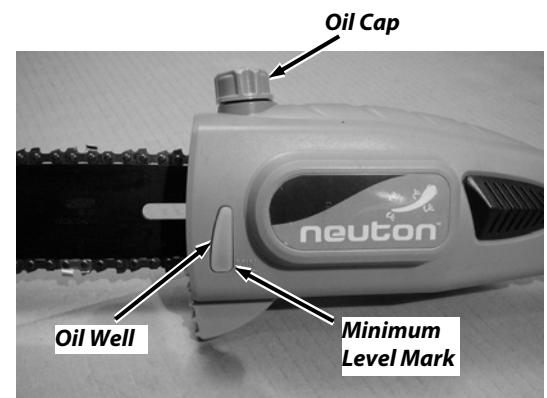

Figure 8
1. Remove the Oil Cap (**Figure 8**) and add the #32 Bar & Chain Oil provided.